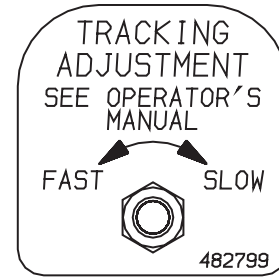

Figure 6-1. Neutral Adjustment
4. Start on the left side of the machine, using the adjustment wrench located on the left side of the machine. Rotate the tracking adjustment nut counter clockwise just until the LH wheel starts to creep forward. Make note of the position of the adjustment nut. Repeat on the right side as needed. See Figure 6-1.